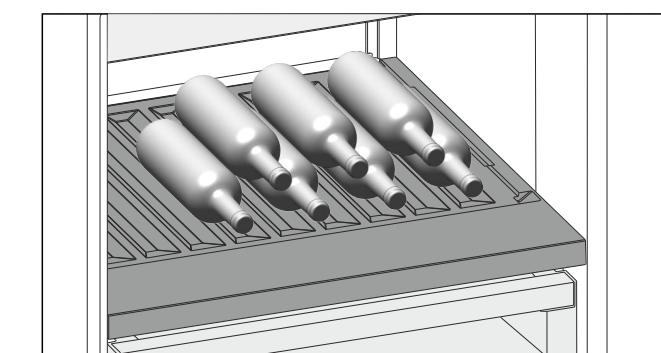

Fig. 141
- Place bottles in the back row with their bases against the back wall. (see Fig. 141)